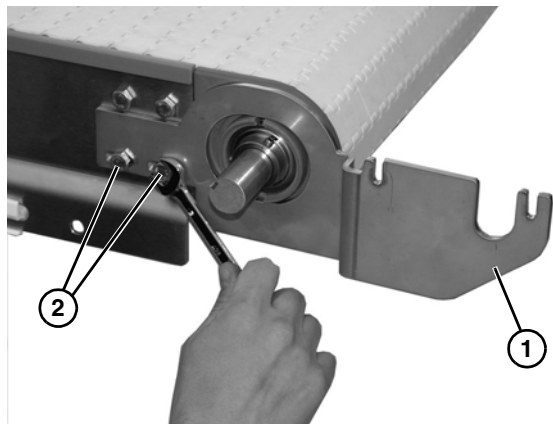

Figure 5
2. Install bent transfer plate (**Figure 5, item 1**) onto side of frame with two bolts (**Figure 5, item 2**) (just removed). Tighten bolts.